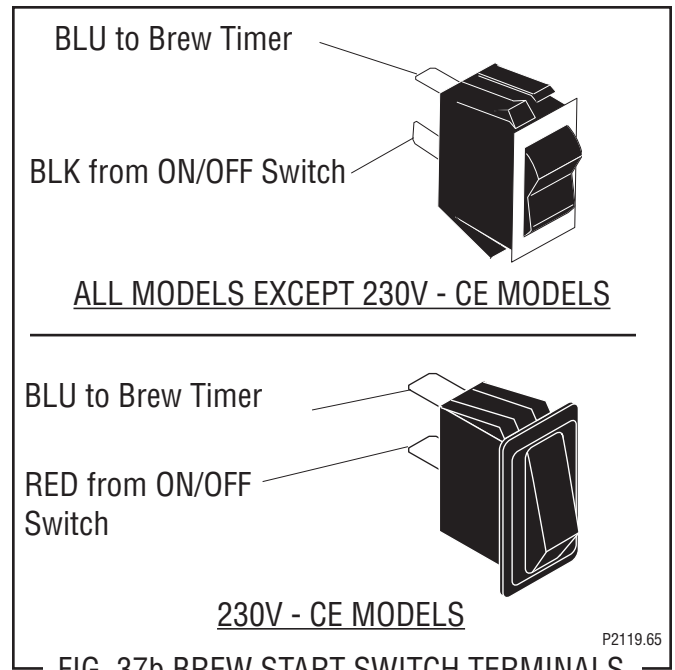

FIG. 37b BREW START SWITCH TERMINALS
4. Refer to Fig. 37b and reconnect the wires.